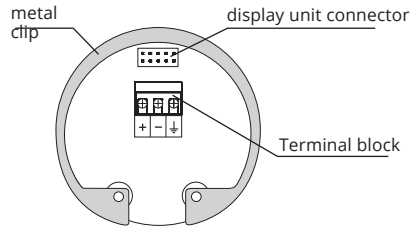

Fig. 17: Inside view of screw terminals of the level meter with current output ULM-70_---I
5. Connect the cable to the screw terminals according to the diagram in Fig. 17 or 18. Firmly tighten the terminals and the cable outlet.
In the event of strong ambient electromagnetic interference, paralleling of conductors with power distribution, or for distribution to distances over 30 m, we recommend grounding the level meter (see above) and using a shielded cable. Ground the shielding of the cable on the side of the power supply, or the shielding is possible to connect only on inside pin of the level meter marked \perp see fig. 17 and 19 (the shielding of the cable is always connected in a single location).